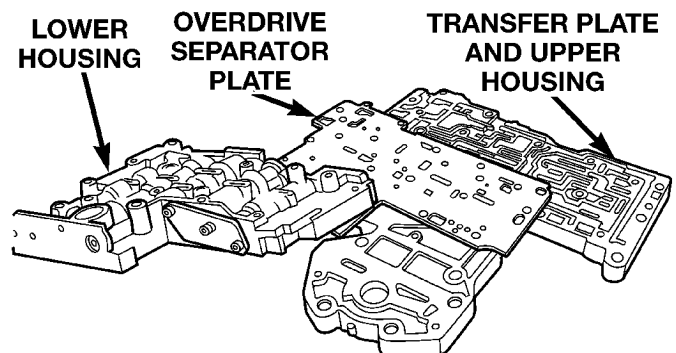

Fig. 60 Lower Housing
(28) Turn valve body over so lower housing is facing upward (Fig. 60). In this position, the two check balls in upper housing will remain in place and not fall out when lower housing and separator plate are removed.
(29) Remove screws attaching valve body lower housing to upper housing and transfer plate (Fig.
(30) Remove lower housing and overdrive separator plate from transfer plate (Fig. 60).